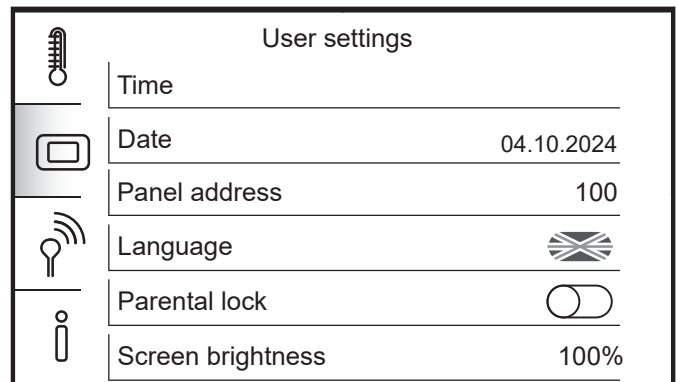

Figure D-2: User settings menu
2. Then tap the User settings. Refer to Figure D-2.